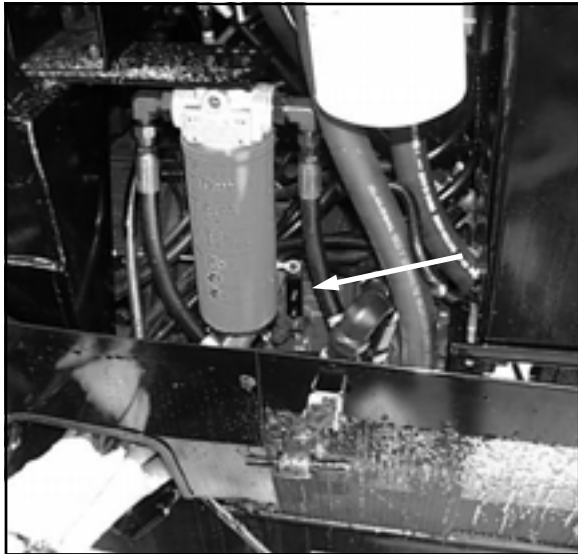

FIG 8.45
**NEUTRAL SETTING** - When the hydrostatic lever is in the neutral position, the machine should not be moving in either direction. If it does, the neutral setting of the hydrostatic pump lever below the hydraulic suction filter (fig. 8.45) needs to be adjusted.